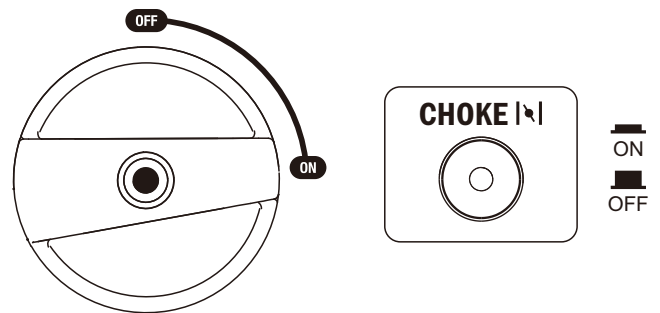

Figure 7: Turn Engine/Fuel Switch to CHOKE Position
5. Flip the oil switch to “ON” choke and pull out (see Figure 7).